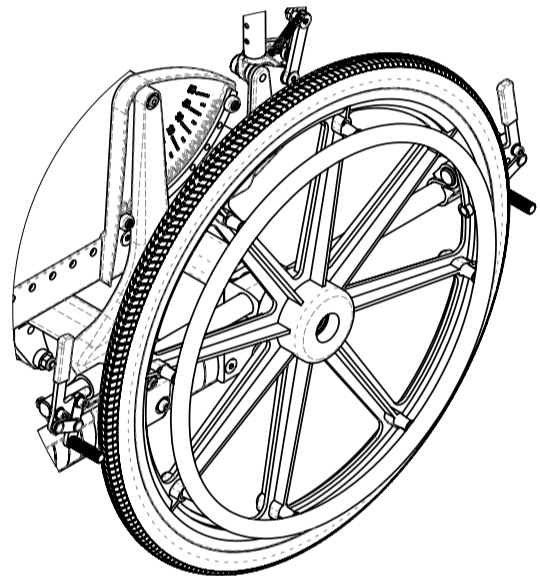

Figure 14.35: User Wheel Locks and Attendant Wheel Locks
4. To engage the attendant wheel lock in the User and Attendant Wheel Lock option (see Figure 14.35), follow the step 3 instructions, follow the instructions corresponding to the user wheel lock type (i.e. Push to Lock or Pull to Lock).